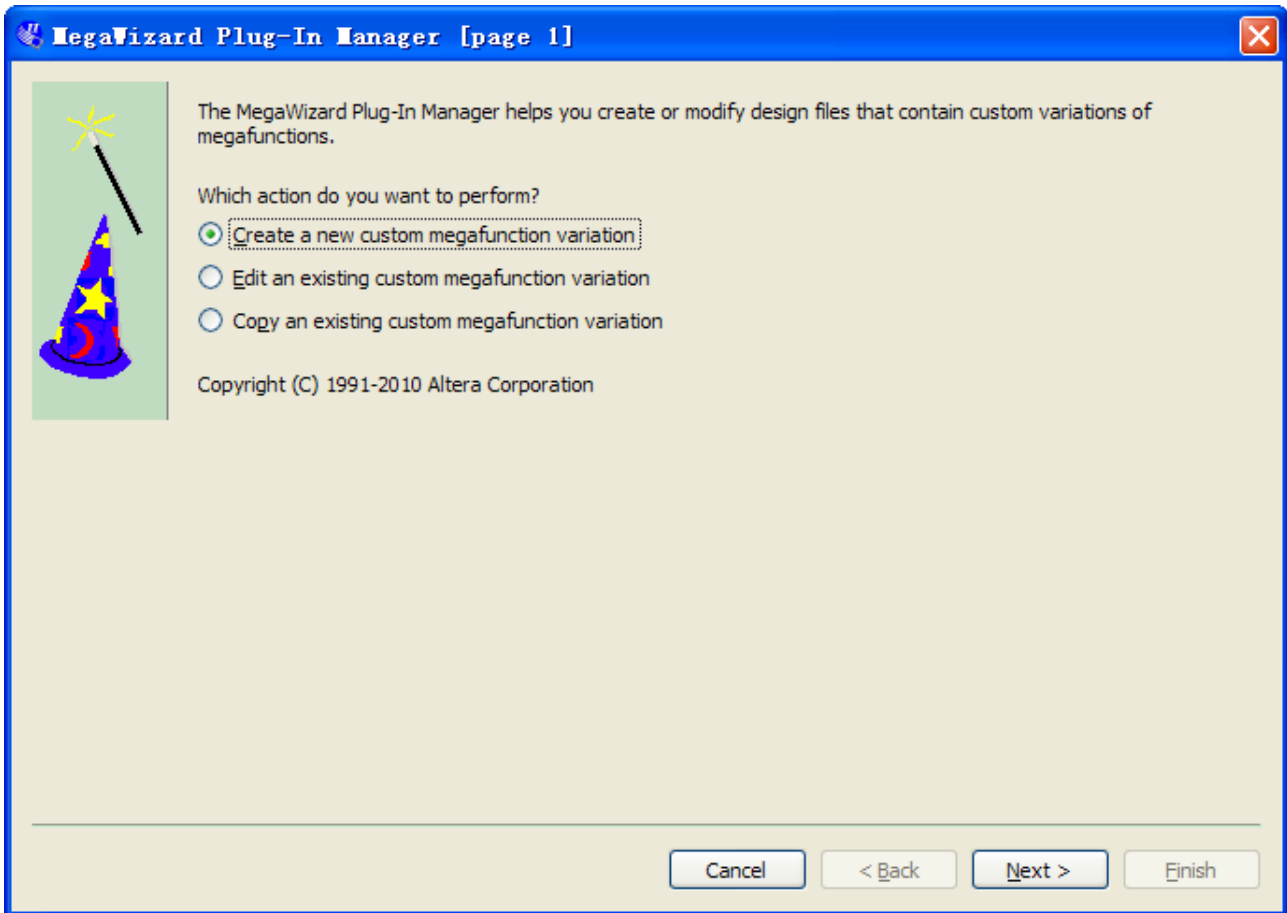

Figure 6-19 Mega Wizard Plug-In Manager
2. Click the **Megawizard Plug-in Manager** button. The MegaWizard® Plug-In Manager appears, as shown in Figure 6-19.